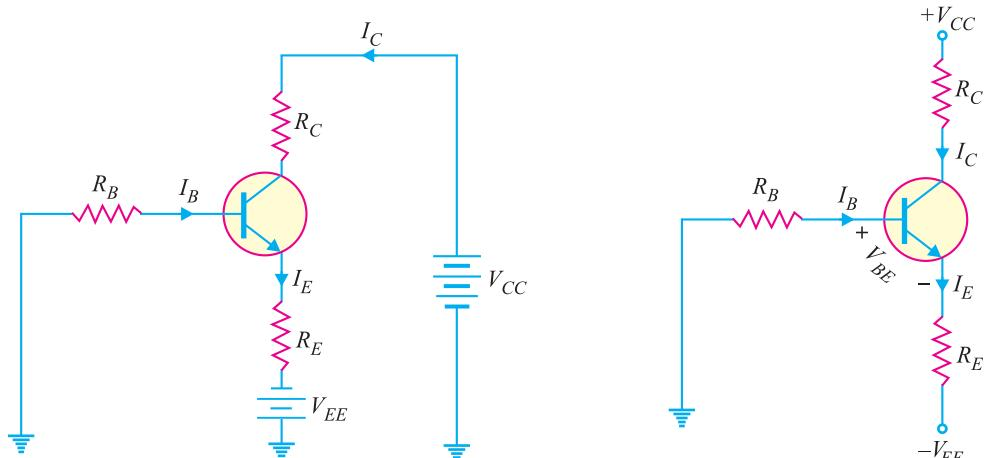
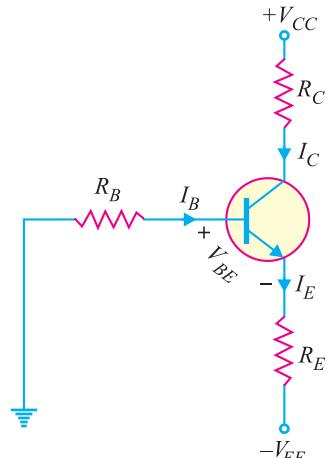

Fig. 9.15
Fig. 9.16
Fig. 9.15 shows the emitter bias circuit. This circuit differs from base-bias circuit in two important respects. First, it uses two separate d.c. voltage sources ; one positive ( $+ V_{CC}$ ) and the other negative ( $- V_{EE}$ ). Normally, the two supply voltages will be equal. For example, if  $V_{CC} = + 20V$  (d.c.), then  $V_{EE} = - 20V$  (d.c.). Secondly, there is a resistor  $R_E$  in the emitter circuit.
We shall first redraw the circuit in Fig. 9.15 as it usually appears on schematic diagrams. This means deleting the battery symbols as shown in Fig. 9.16. All the information is still (See Fig. 9.16) on the diagram except that it is in condensed form. That is a negative supply voltage  $- V_{EE}$  is applied to the bottom of  $R_E$  and a positive voltage of  $+ V_{CC}$  to the top of  $R_C$ .
Fig. 9.16 shows the emitter bias circuit. We shall find the Q-point values (*i.e.* d.c.  $I_C$  and d.c.  $V_{CE}$ ) for this circuit.
**(i) Collector current ( $I_C$ ).** Applying Kirchhoff's voltage law to the base-emitter circuit in Fig. 9.16, we have,
**Alternatively.** Applying Kirchhoff's voltage law to the collector side of the emitter bias circuit in Fig. 9.16 (Refer back), we have,